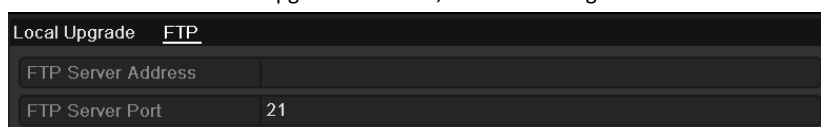

Figure 13. 8 FTP Upgrade Interface
2. Click the **FTP** tab to enter the local upgrade interface, as shown in Figure 13. 8.